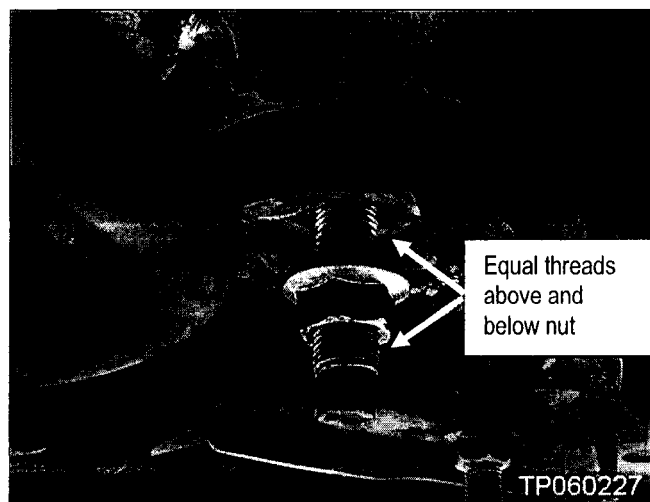

Figure 26b
- Lower the nut to about the middle of its travel (see Figure 26b).